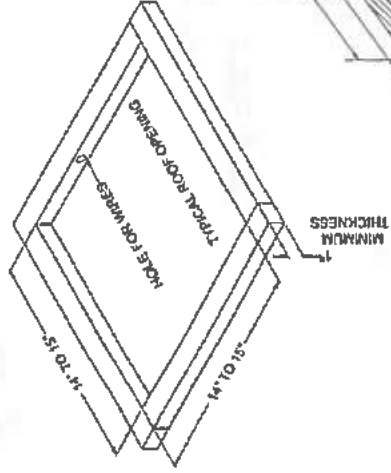

FIGURE 1
- Examine the roof opening. If the opening is smaller than 14" x 14", the opening must be enlarged. If the opening exceeds 15" x 15", a mounting frame must be field fabricated to reduce the opening size (See Figure 1).
B. If a roof vent opening is not used, a new opening (See Figure 1) will have to be cut into the vehicle roof. A matching opening will also have to be cut into the interior vehicle ceiling. Be careful when cutting the ceiling opening. If the ceiling opening is carpelled, snagging could occur. After the opening in the roof and interior ceiling are the correct size, a framed support structure must be provided between exterior roof top and interior ceiling. The reinforced framed structure must provide the following guidelines:
Airxcel's 47000 series requires that the spacing from the vehicle roof top to the interior ceiling be no less than 1". A typical support frame is shown in Figure 1.